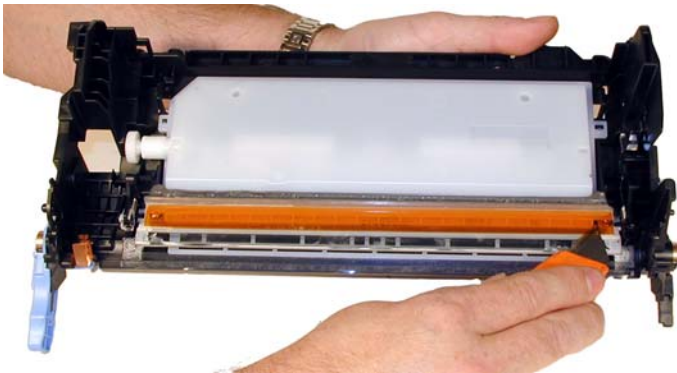

Figure 25
12) With a sharp razor knife, slide the blade along the base plastic of the orange film assembly. Remove the assembly. This must be removed to get access to the wiper blade screws. According to HP, this film assembly helps prevent toner scatter. See **Figures 25 & 26**.